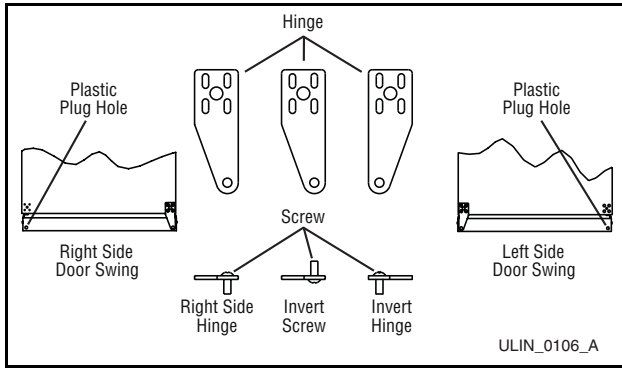

Figure 15
- Remove pivot screw from top hinge, invert screw and reinstall pivot screw in top hinge (**Figure 15**). Do not install hinge on cabinet at this time.
- Remove pivot screw from bottom hinge, invert screw and reinstall pivot screw in hinge (**Figure 15**).